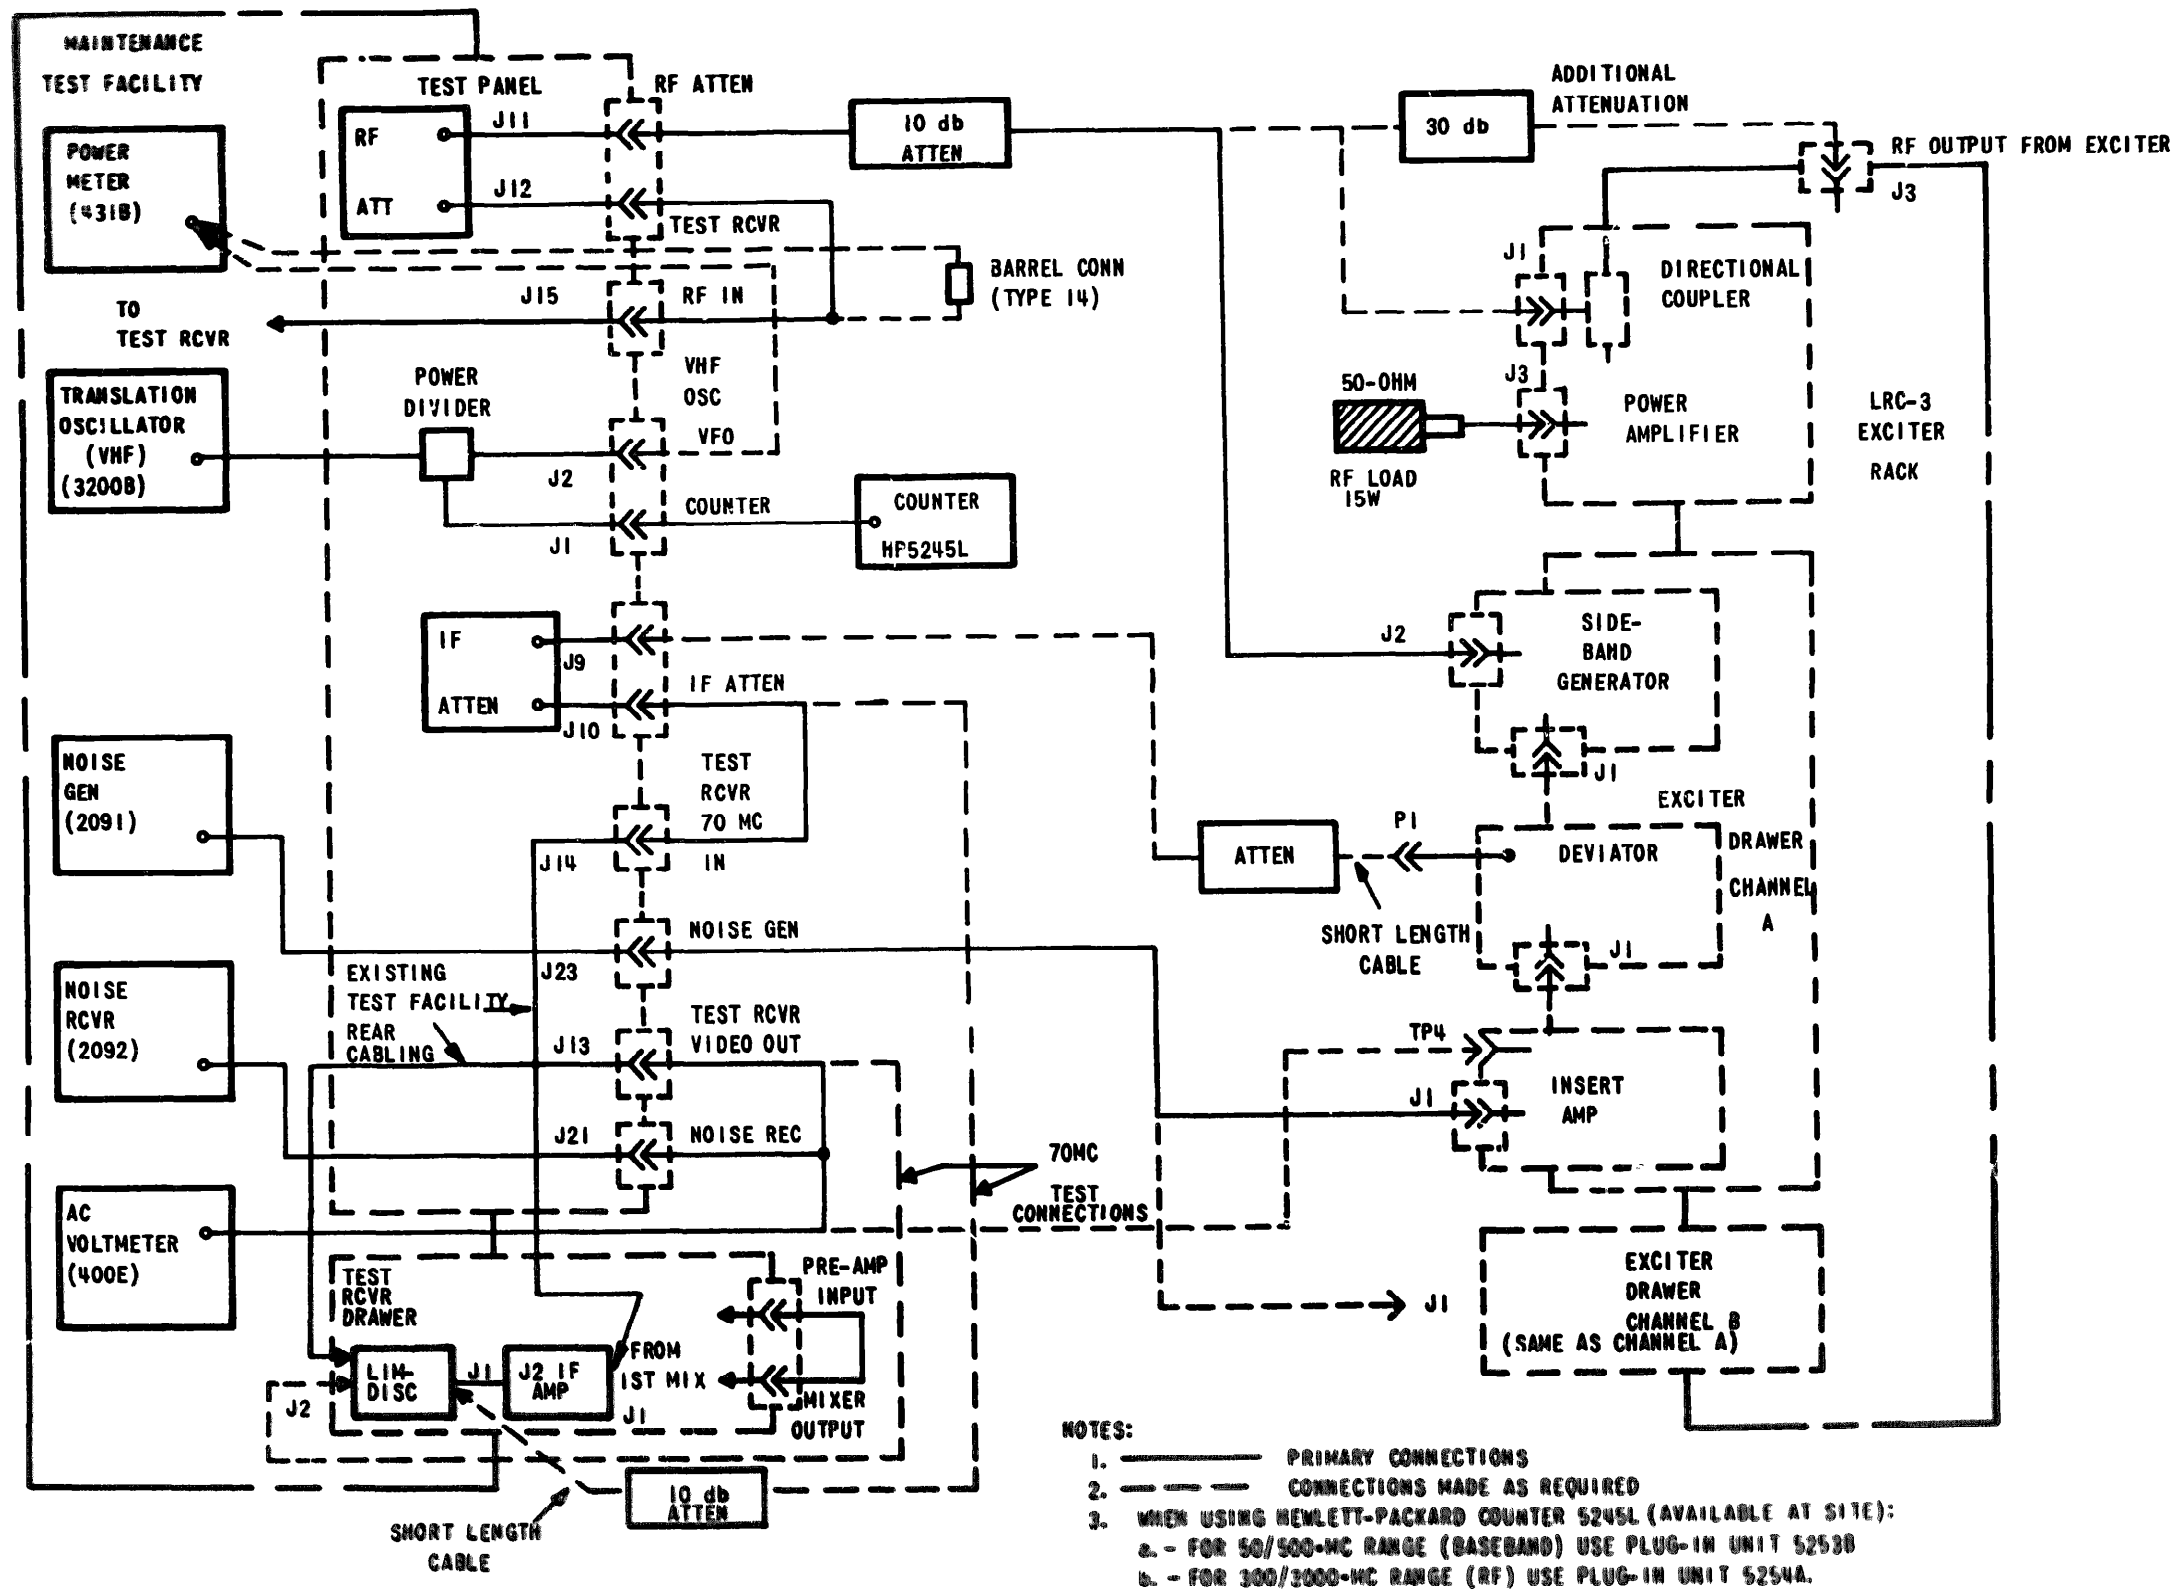

Figure 3-5. Exciter Intermodulation Distortion Test and 70-MC Deviator Cable Connections
- a. **Refer to figure 3-5 and make connections as indicated.**